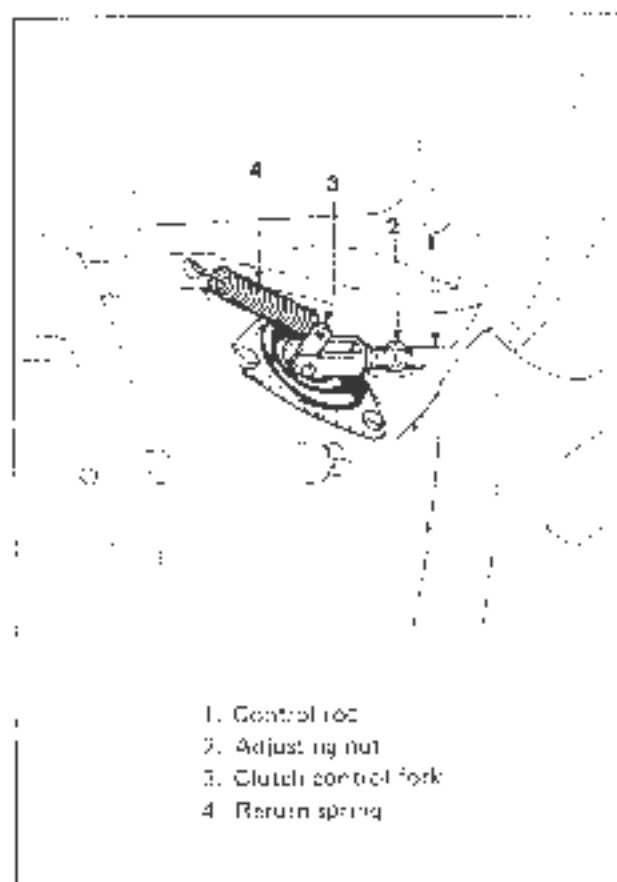

Figure 27. Clutch adjustment
2. If the idle stroke is insufficient (clutch slippage) or excessive (disengagement is not complete) adjust the releasing control rod (see fig. 27) through adjusting nut (2) until an idle stroke of 15 mm is obtained.